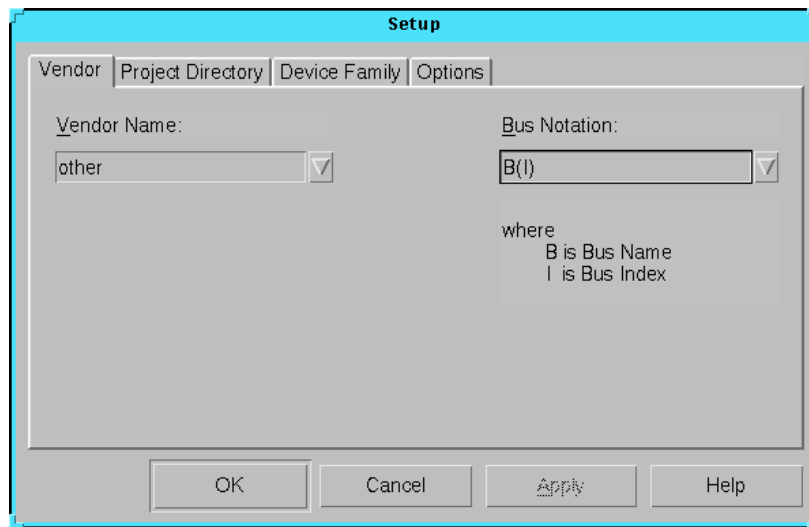
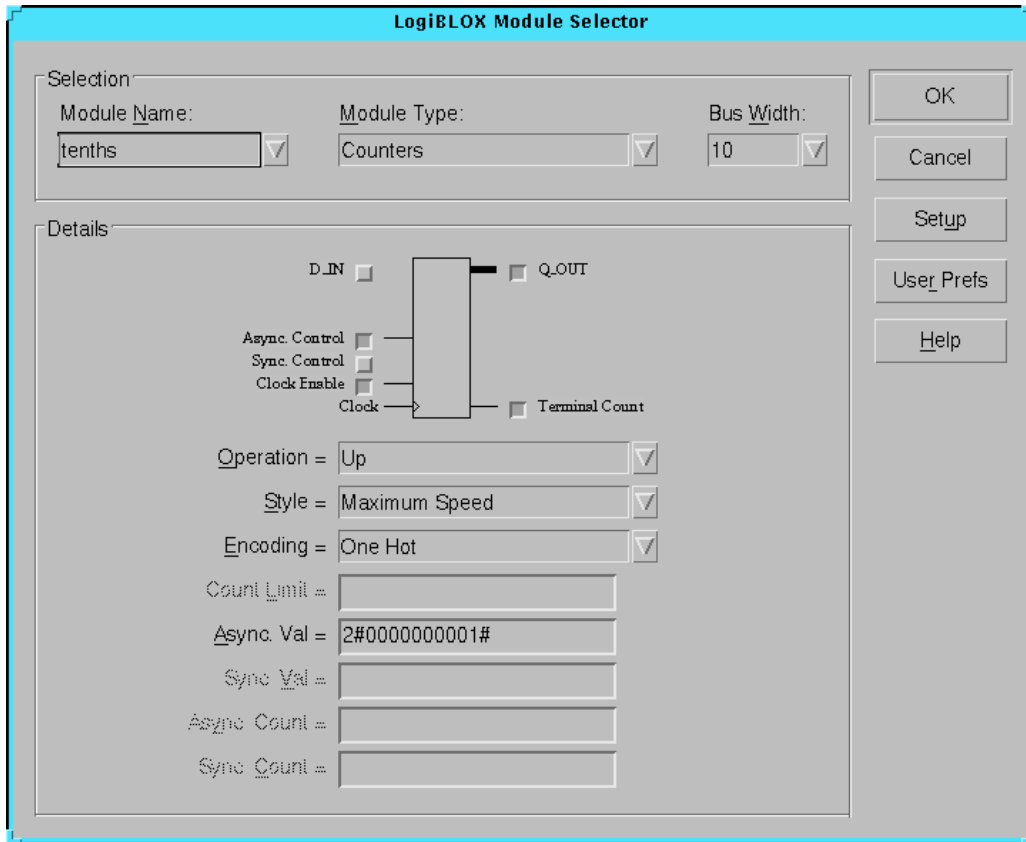

Figure 1-1 LogiBLOX Setup Dialog Box
Figure 1-2 LogiBLOX Module Selector
The LogiBLOX GUI and the Setup dialog box open. See the “LogiBLOX Setup Dialog Box” figure 1-1, and the “LogiBLOX Module Selector” figure 1-2.
2. In the Vendor tab of the Setup dialog box, select Mentor or other, and pick the bus notation for parenthesis B(I). See the “LogiBLOX Setup Dialog Box” figure 1-1.
7. In the LogiBLOX Module Selector dialog box (shown in “LogiBLOX Module Selector” figure 1-2), set the following options.